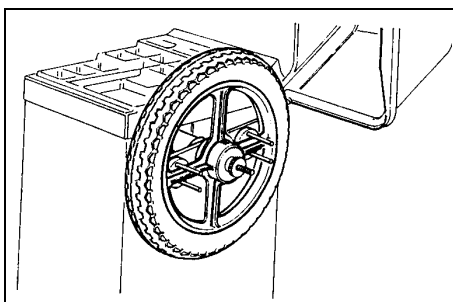

fig.15
- **Fig. 15** shows the attachment system for motorcycle wheels using the motorcycle flange.
If only the static imbalance is to be determined, as with motorcycle wheels, only the rim diameter has to be set on the programmer (2), (**see fig. 15**). The other two readings can be set at any figure.